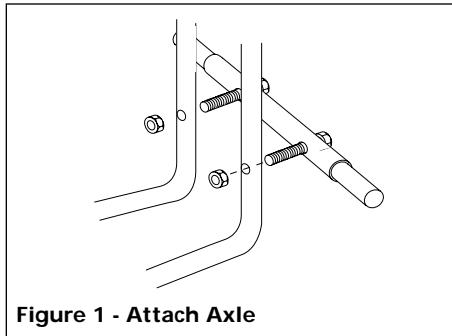

Figure 1 - Attach Axe
2. Stand pump upright and hold steady. Attach axle to cart legs by inserting pre-assembled bolts into holes in cart legs. Secure with one 1/4" - 20 nut on each bolt. Use 7/16" wrench to tighten (See Figure 1).